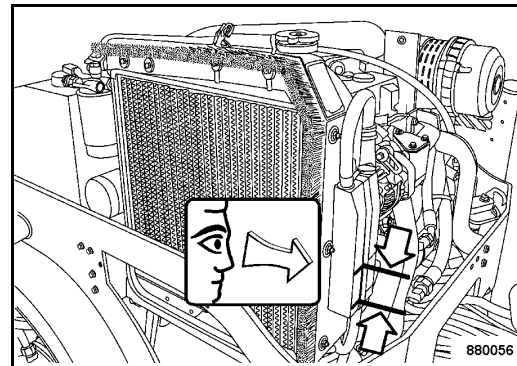

Fig. 124
- Check the coolant level in the compensation tank (Fig. 124).